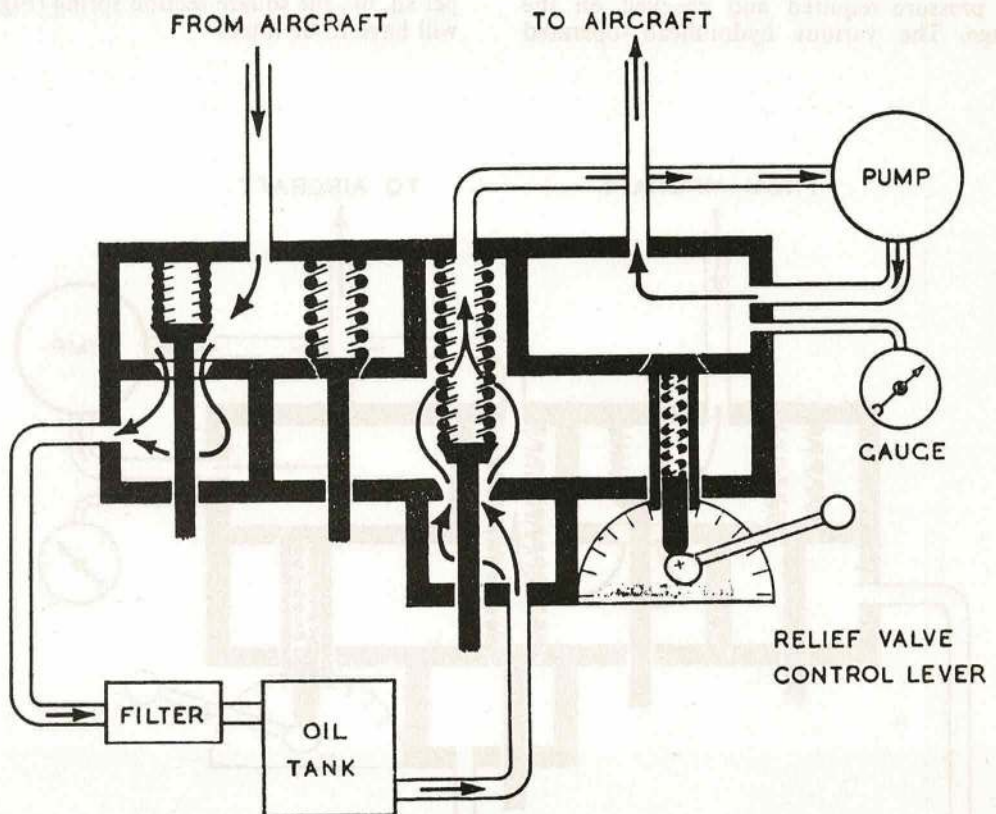
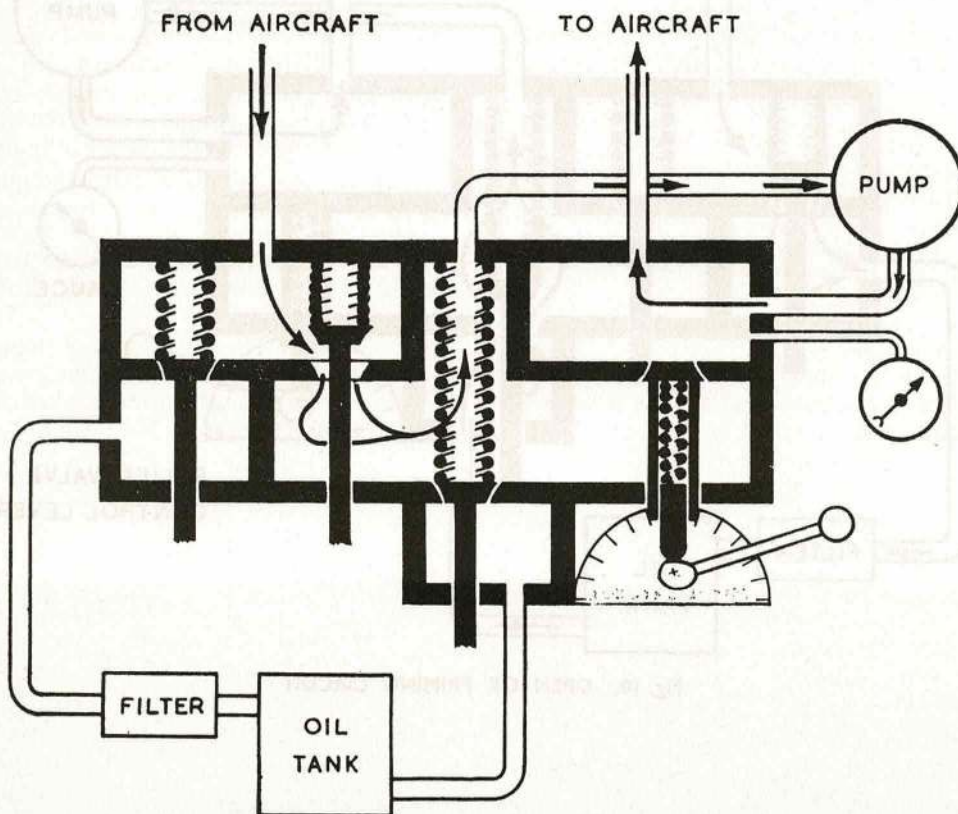

Fig. 10. OPEN OR PRIMING CIRCUIT
Fig. 11. CLOSED OR TESTING CIRCUIT
38. There are two hydraulic circuits, the **open** or **primary circuit** (Fig. 10) and the **closed** or **testing circuit** (Fig. 11). In the open circuit, circulation is from the pump, through